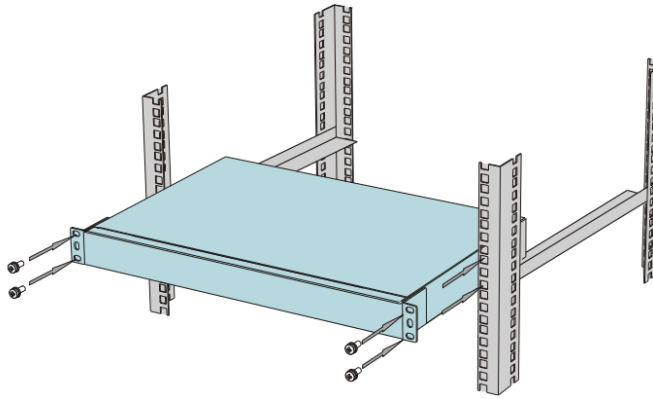

Figure 32: Installing the device in a switch cabinet
- Attach the mounting bracket to the switch cabinet using screws that meet the cabinet installation requirements (the screws are provided by the cabinet manufacturer and are rust proof on their surfaces). Ensure that the screws are in horizontal position. See Figure 32.